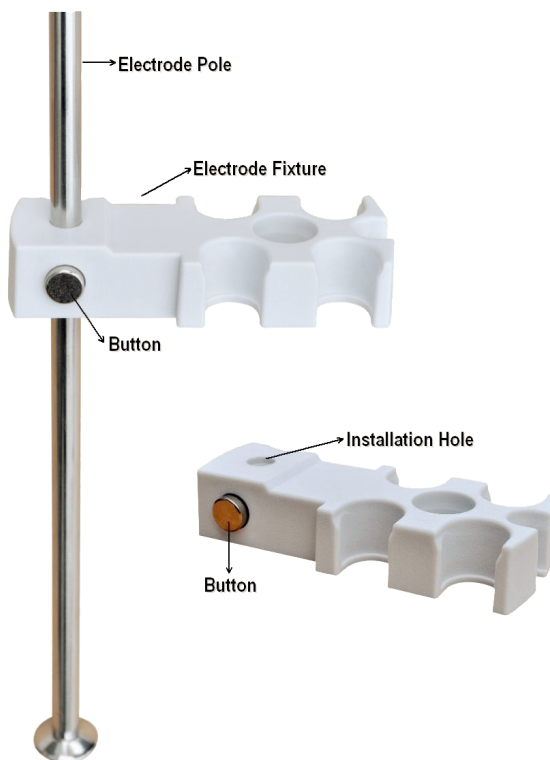

Figure 2 Installing the electrode fixture
- 2 Release the button when the fixture is in place. See Figure 2.